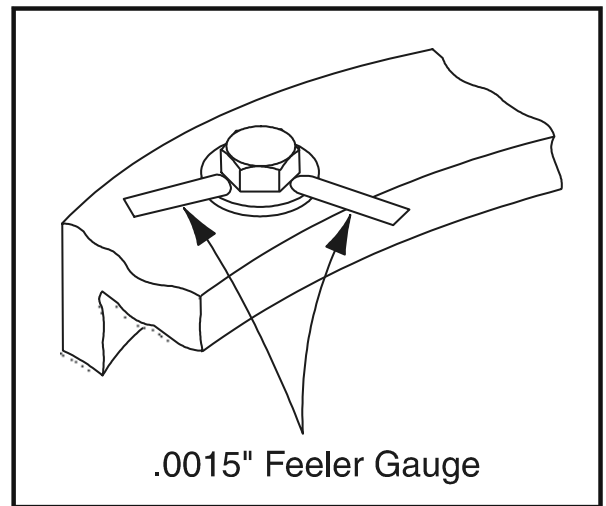

Figure 2-30. Swing Bearing Feeler Gauge Check
- b. At the positions indicated on Figure 2-30. try and insert the .0015" feeler gauge between the bolt head and hardened washer at the arrow indicated position.
- d. At the position indicated on Figure 2-30. try and insert the .0015" feeler gauge between the bolt